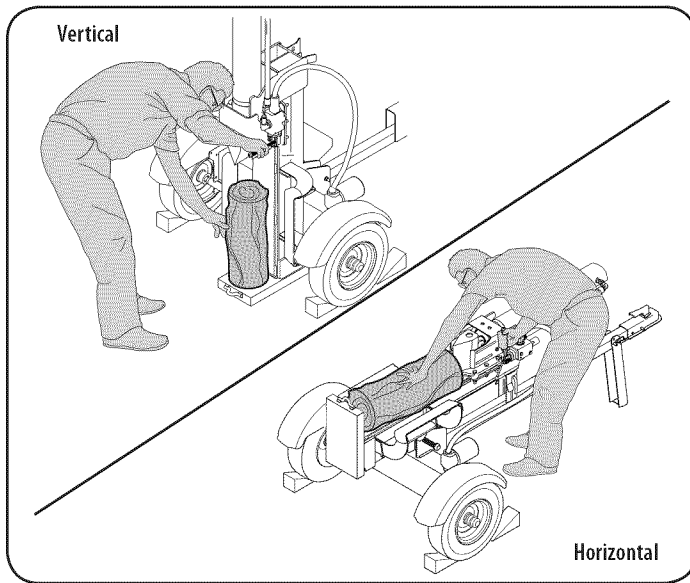

Figure 1
- Always operate this machine from the operator zone(s) specified in the manual. See Figure 1.
- a. Horizontal Operating Position: Stand on the control lever side of the log splitter and stabilize log as shown, if needed. See Figure 1.
- b. Vertical Operating Position: Stand in front of the log splitter and stabilize log as shown, if needed. See Figure 1.